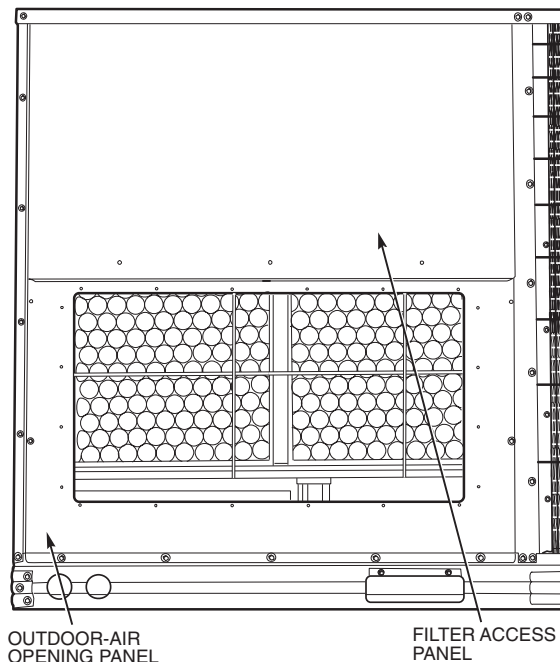

Fig. 32 — Typical Access Panel Locations
1. To remove the existing unit filter access panel, raise the panel and swing the bottom outward. The panel is now disengaged from the track and can be removed. Remove the indoor coil access panel and discard. See Fig. 32.
- Replace the filter access panel. See Fig. 32. Ensure the filter access panel slides along the tracks and is securely engaged.